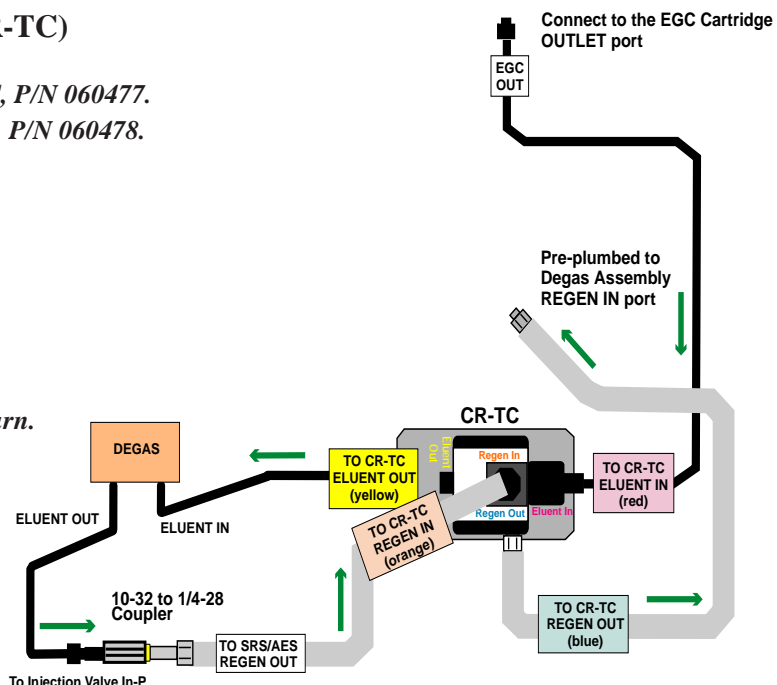

Figure 3
2.1 Installation before Hydration (Figure 3)
2.2 Hydration (Figure 3)